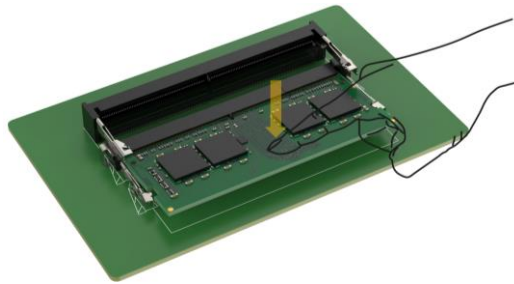

Figure 3-8: Lock the Memory
Step 3: Once aligned, firmly press the module into position until the module is completely seated in the socket and the retaining clips lock the module into the socket (**Figure 3-8**).